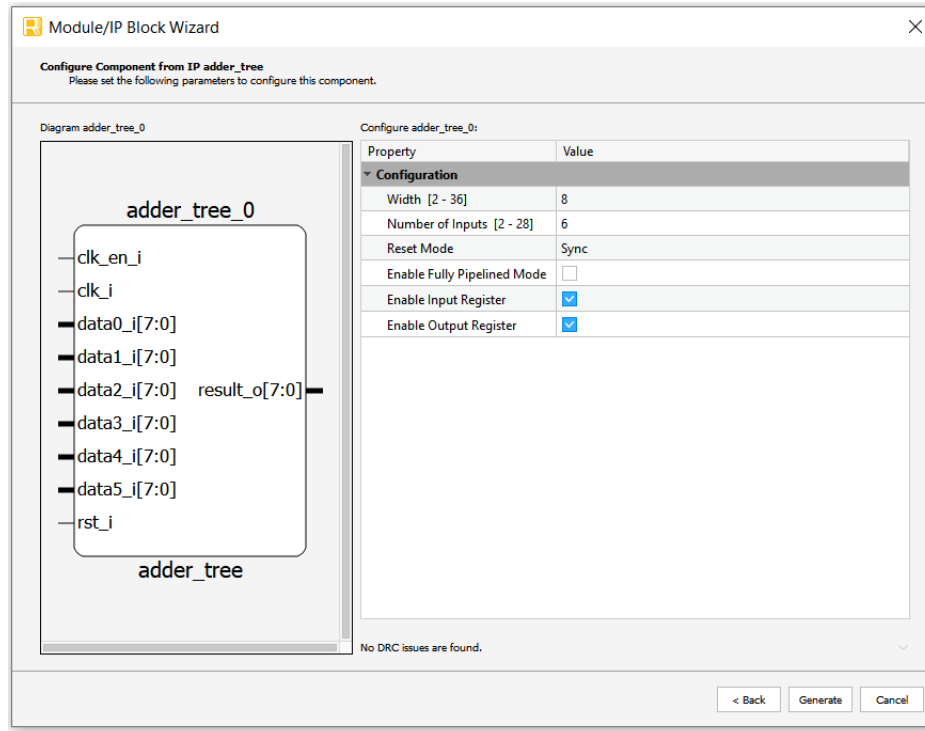

Figure 3.2. Configure User Interface of Adder Tree Module
4. In the module's dialog box, customize the selected Adder Tree module. A sample configuration is shown in Figure 3.2. For configuration options, see the Attribute Summary section.